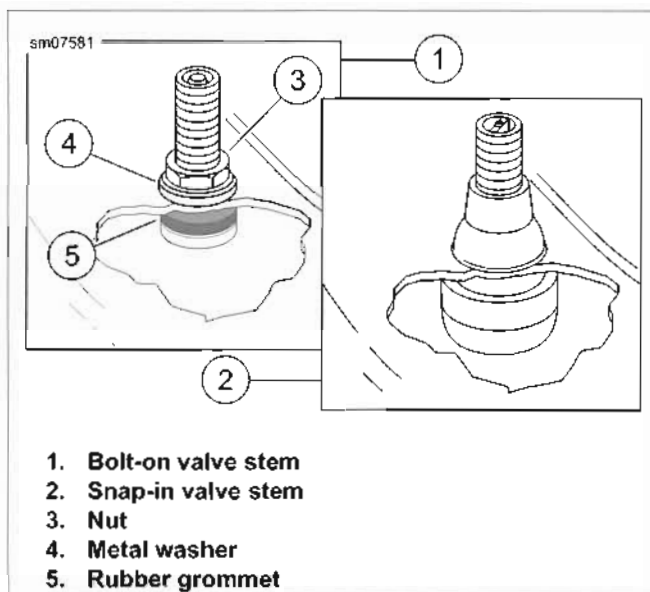

Figure 2-32. Tubeless Tire Valve Stems
- See Figure 2-32. Install rubber grommet (5) on valve stem.
- Install metal washer (4) and nut (3).